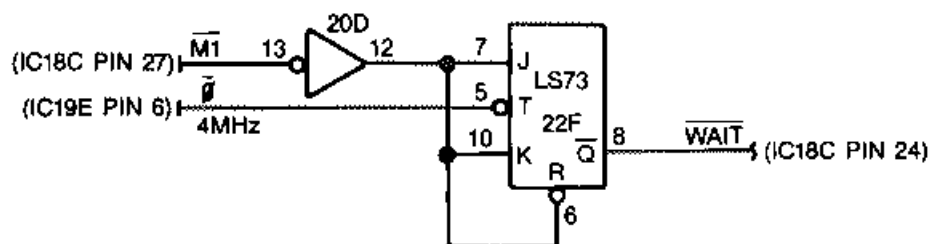

FIGURE 2-23. Z-80A $\overline{\text{WAIT}}$ SIGNAL GENERATOR CIRCUIT
2.3.1.5 Z-80A $\overline{\text{WAIT}}$ Signal Generator Circuit (Figures 2-23 and 2-24)